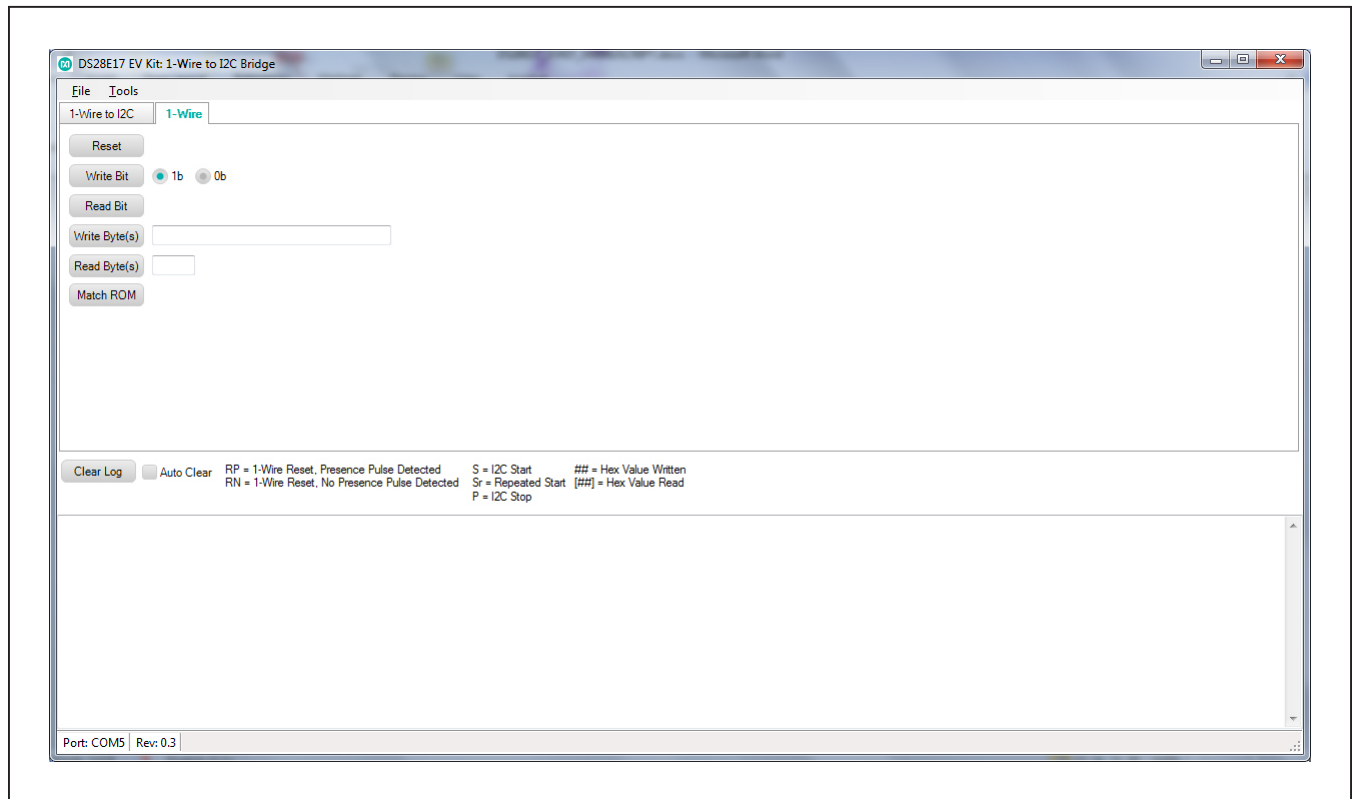
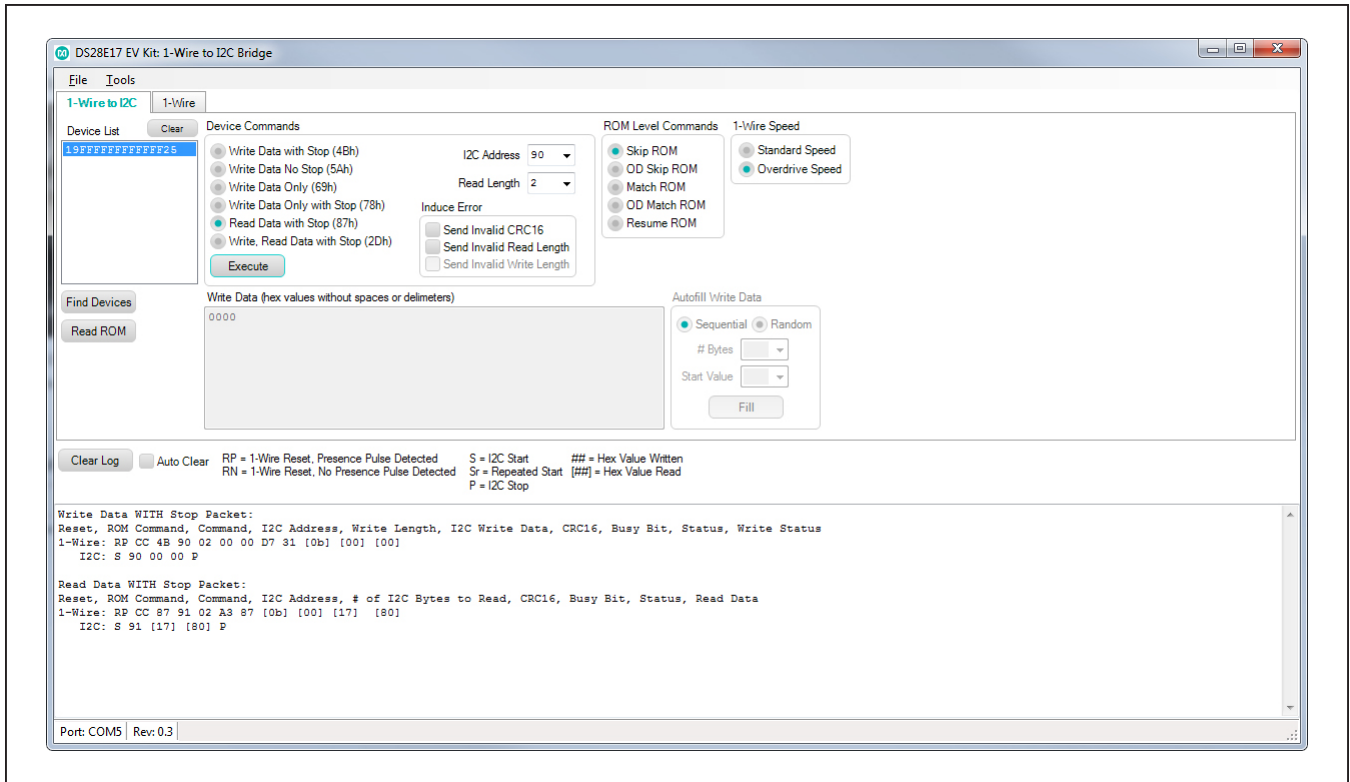
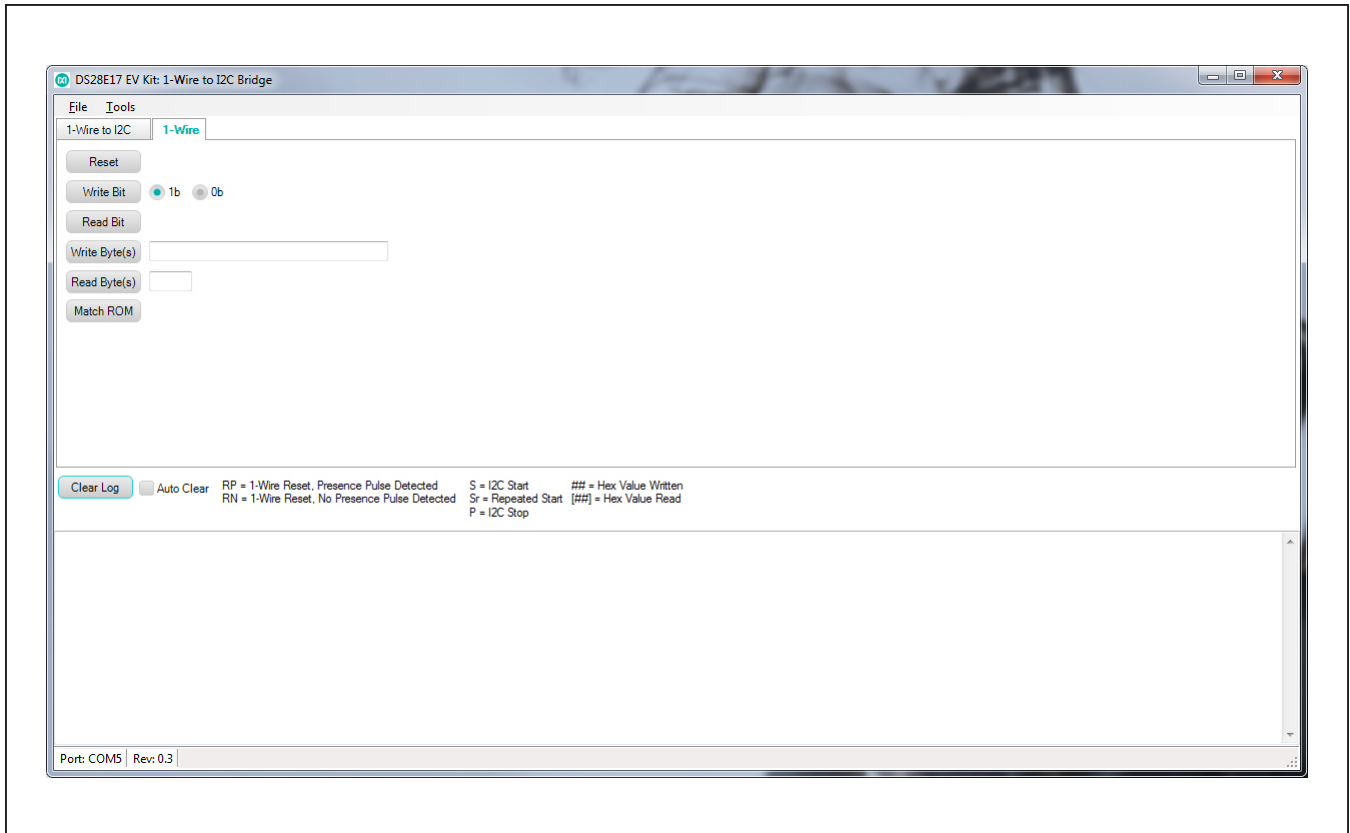

Figure 12. DS28E17 EV Kit Software, Main GUI Interface
Figure 15. DS28E17 EV Kit Software GUI (1-Wire to I2C Tab)
Figure 16. DS28E17 EV Kit Software GUI (1-Wire Tab Functions)
The DS28E17 evaluation program user interface (Figure 12) has two tabs: **1-Wire to I2C** and **1-Wire**. The **1-Wire to I2C** tab (Figure 15) is the main tool to evaluate specific functions of the DS28E17. The **1-Wire** tab (Figure 16) provides 1-Wire communication functions down to the bit level. These functions allow manual creation of communication sequences beyond those found on the **1-Wire to I2C** tab.
The **1-Wire to I2C** tab (Figure 15) provides the following elements: **Device List** text box, **Device Commands** group box, **ROM Level Commands** group box, **1-Wire Speed** group box, **Find Devices** and **Read ROM** buttons,
The **1-Wire** tab (Figure 16) provides the low-level 1-Wire primitives that can be used to construct any 1-Wire communication sequence. Choices made in the **1-Wire Speed** group box under the **1-Wire to I2C** tab (**Standard**
- The two I2C bytes received ([17] [80]) denote the device temperature, 23.5°C (see Figure 15).